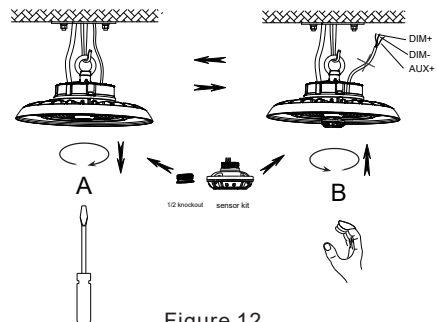

Figure 12
3. Default programs have been set for motion sensor and PIR before shipment, it needs to be re-set by a remote control if you need change the working mode, and the remote control is an optional accessory (Figure 12).